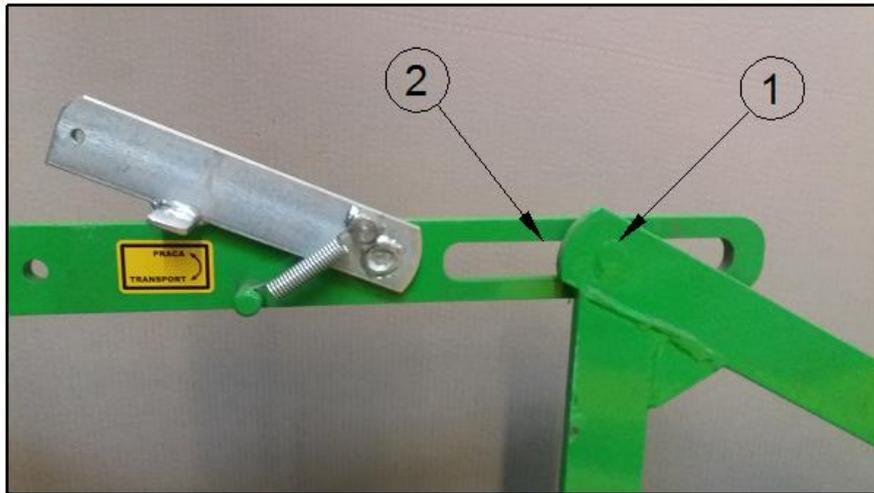

Figure 18 Proper positioning of the mower
In the position, the pin of the scythe-connector (Fig. 18, item 1) should be placed in the centre of the groove in the connector (Fig. 18, item 2).